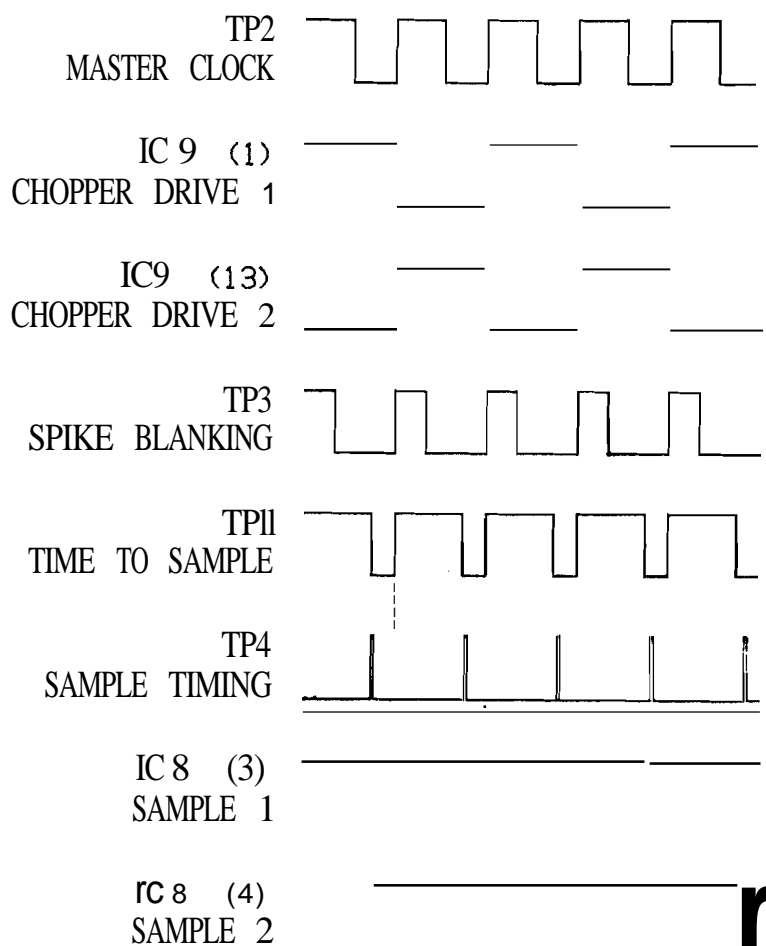

Fig. 4 Overall timing
28. Fig. 4 shows the relationships of the timing signals.